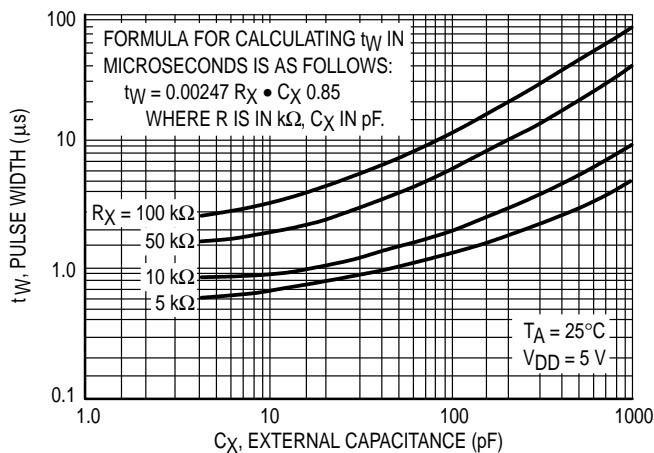

Figure 3. Typical  $C_X$  versus Pulse Width @  $V_{DD} = 5.0 \text{ V}$
**MONO-IN (Pin 15)** — Used as the timing pin for the on-chip monostable multivibrator. If the Mono-In input is connected to VSS, the monostable circuit is disabled, and Decode Out is directly connected to the selected Q output. The monostable circuit is enabled if a resistor is connected between Mono-In and VDD. This resistor and the device's internal capacitance will determine the minimum output pulse widths. With the addition of an external capacitor to VSS, the pulse width range may be extended. For reliable operation the resistor value should be limited to the range of 5 kΩ to 100 kΩ and the capacitor value should be limited to a maximum of 1000 pf. (See figures 3, 4, 5, and 10).